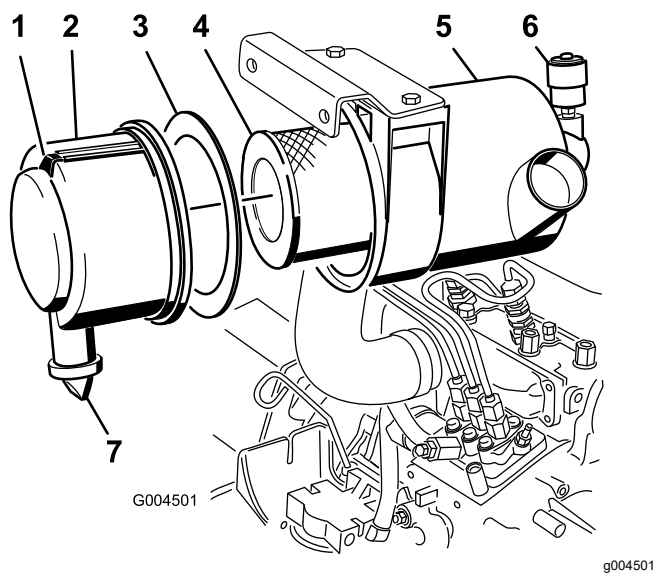

Figure 40
5. Service the air-cleaner filter when the air-cleaner indicator shows red (Figure 40).